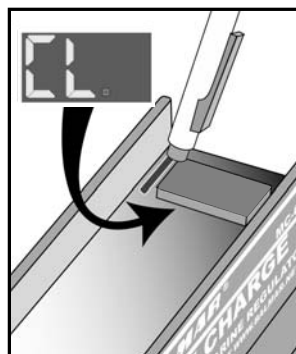

Figure 16 - Indicates Compensation Limit mode.
1. **ACTIVATE-HOLD** switch when "CL" is displayed (see Figure 16). Value 14.8 will be highlighted. Display will scroll upward. **RELEASE** when desired value is shown.